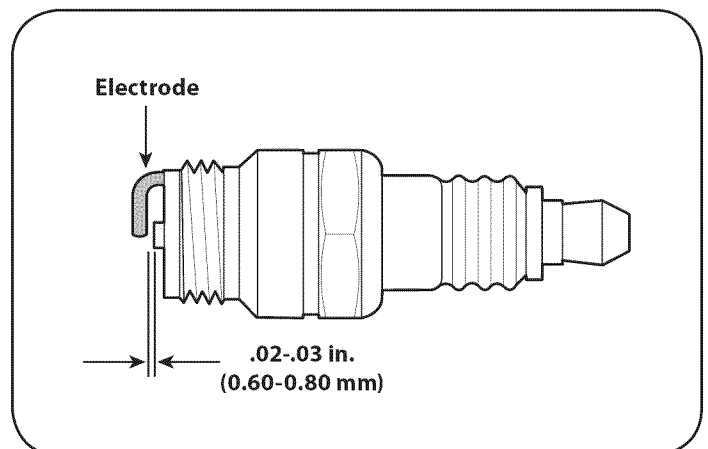

Figure 16
- Measure the plug gap with a feeler gauge. Correct as necessary by bending side electrode. See Figure 16. The gap should be set to .02-.03 inches (0.60-0.80 mm).